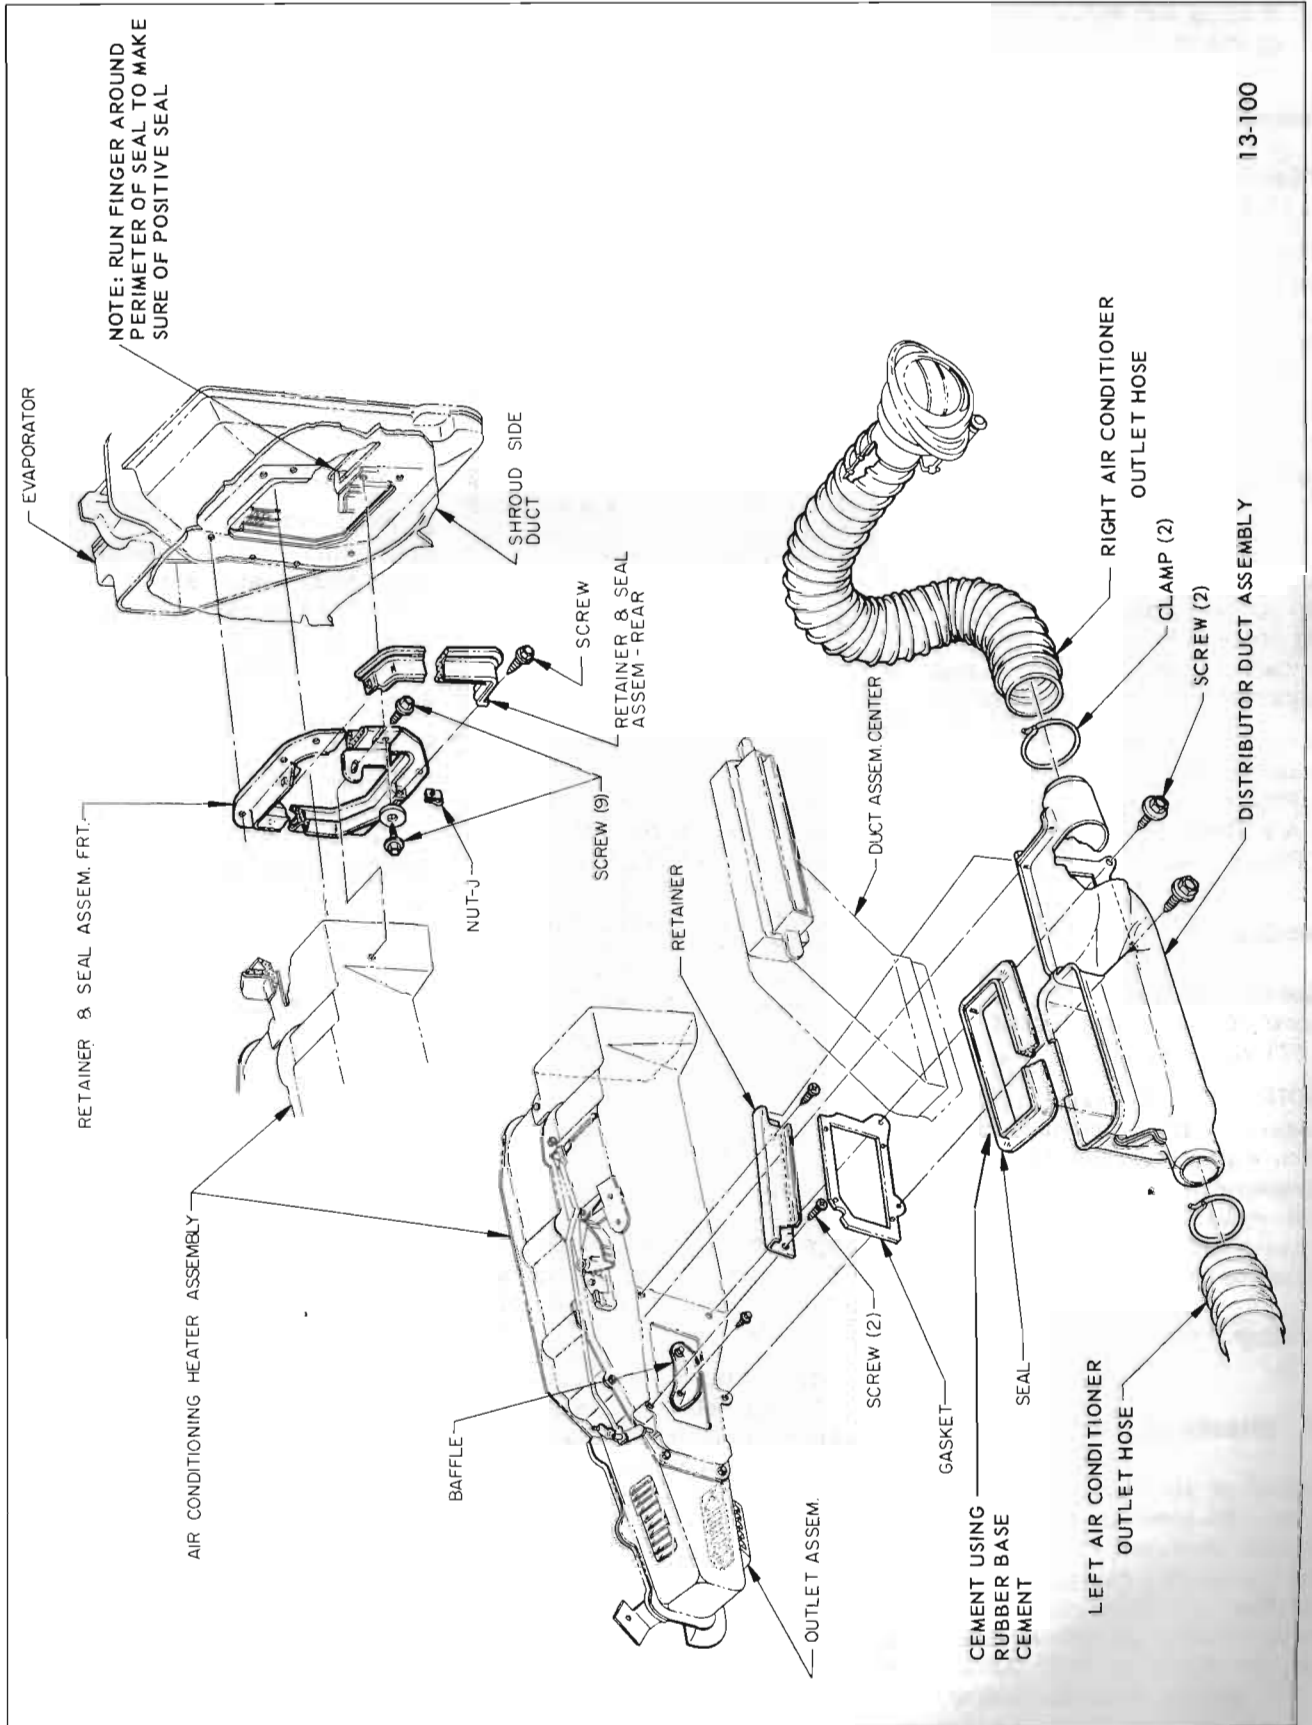

Figure 13-100—Distributor Duct Assembly, and Front Retainer and Seal Installation
6. Remove glove box and disconnect air conditioner outlet hoses from distributor duct (see Figure 13-100). Remove two screws securing duct to air conditioner heater assembly and take out distributor duct.
7. Disconnect temperature, air and defroster control cables (see Figure 13-2). Remove rear retainer and seal assembly (see Figure 13-100) and pull out air conditioner heater assembly.
4. Disconnect clamp from right air conditioner outlet hose (see Figure 13-100) and disengage hose from distributor duct.
8. Remove rear retainer and seal assembly (see Figure 13-100).
1. Disconnect clamp from left air conditioner outlet hose (see Figure 13-100) and disengage hose from distributor duct.